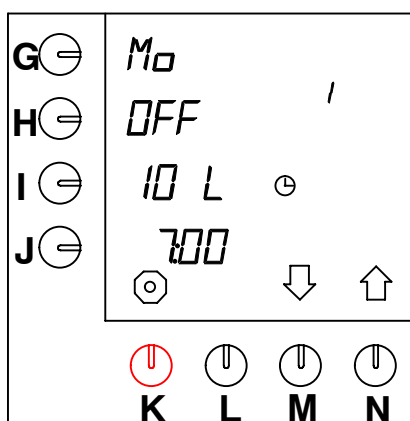

Fig. 44 Pre-programmed settings (inactive)
There are fourteen pre-programmed "time settings" for all days of the week. As soon as these are activated through the procedure below, they will only be active and visible in the user mode. All settings can be set as desired. The fourteen settings are default (fig. 44 ):
- Press selection key (N.)↑ until fig.44 appears on the display.